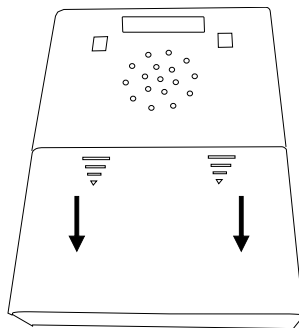

Figure 1: Battery compartment of the »signolux« receiver
- At the rear side there is a battery compartment the cover of which can carefully be pushed downwards so that the compartment opens ( fig. 1).